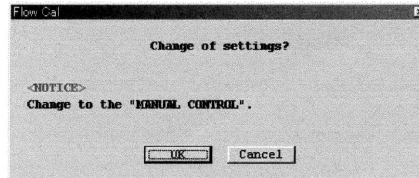

Fig.62
③ After filling in all the fields required, click on "OK" button. A message box as shown in Fig. 62 then appears.